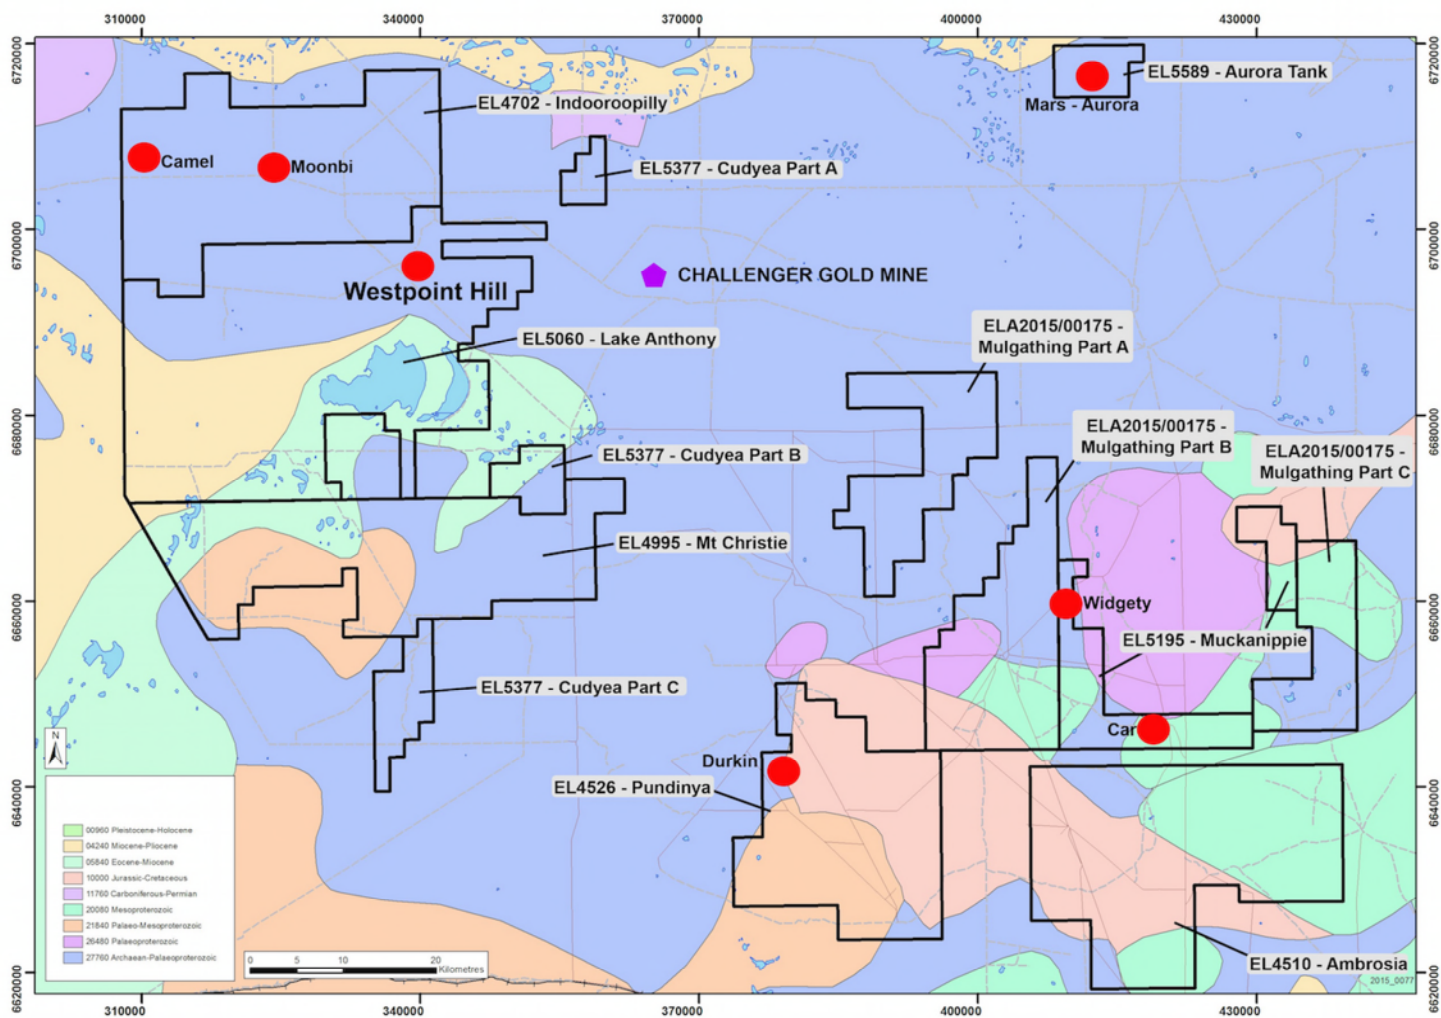

Figure 5: Marmota's Gawler Craton Gold Project, showing the location of Westpoint Hill and Widgety
- Widgety prospect is located 50km SE of the Challenger gold mine see [Figure 5].